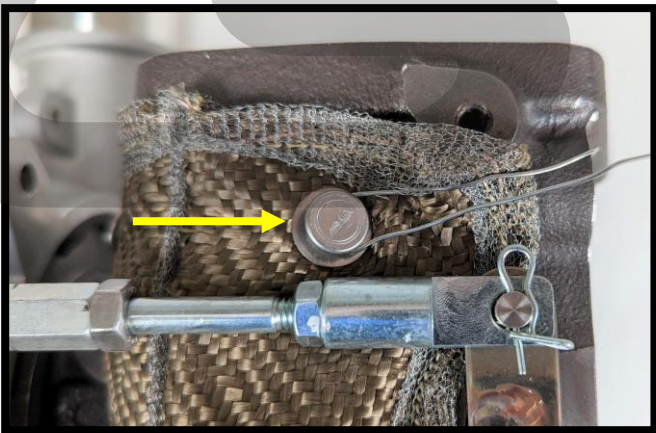

Figure 2e
- e) Wrap the wire around the opposite button rivet shown in **Figure 2e**. Once it is wrapped around pull the wire snug so the blanket is secure.